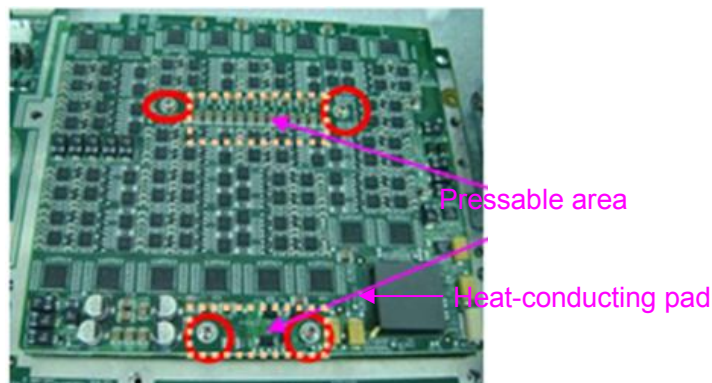

Fig 7-47 Disassemble the transmitting board (2)
4. When assemble the transmitting board, first insert the transmitting board onto the main board, and securing it with 4 M2.5X8 screws(see figure 7-47), remove the film (thicker) stick on the heat-conducting pad and stick the pad on the chip; then remove the other film. Make sure to stick the FPGA heat-conducting pad completely with the radiator surface.